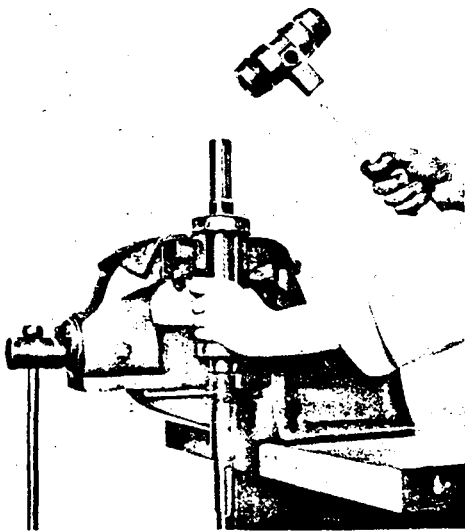

Fig. 23: Removal of ball bearings from the shaft
Remove grooved ball bearings (321), including Nilos rings (500.1) from the shaft (210) - fig. 23.